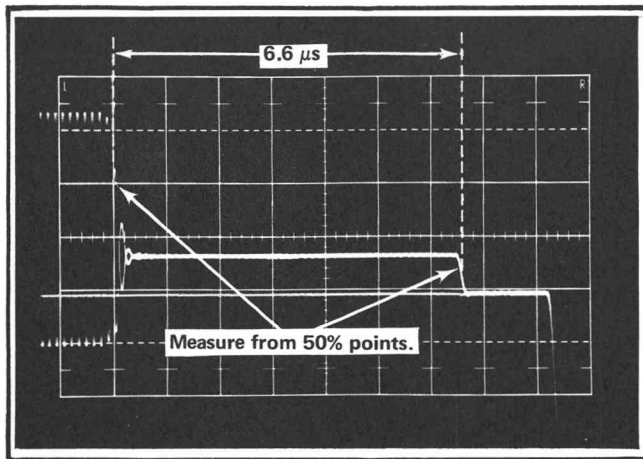

Fig. 5-11. Black bar width properly adjusted.
c. Set the test oscilloscope Horizontal Display Sweep Magnifier switch to X10 and rotate the Horizontal Position control to position the start of the black bar on a major graticule line as shown in Fig. 5-11.